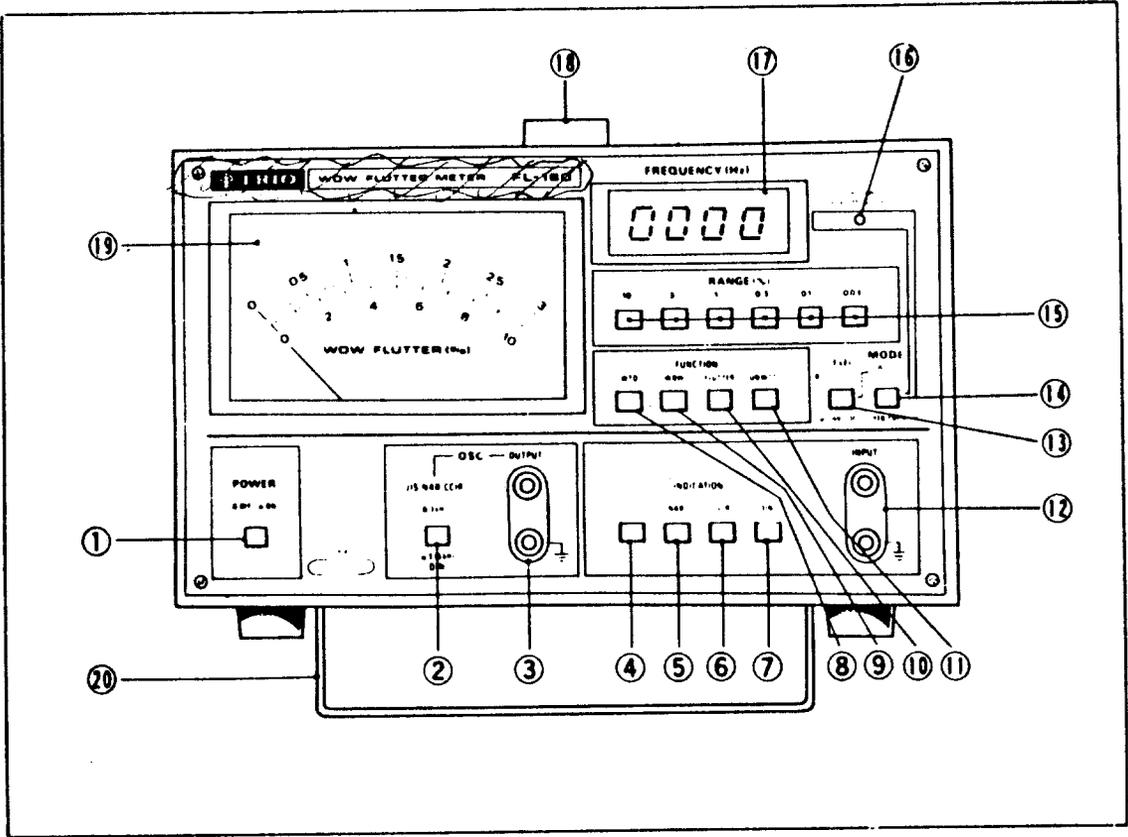

Fig. 1. Front Panel Controls and Indicators.
**FRONT PANEL CONTROLS** Refer to Fig. 1.